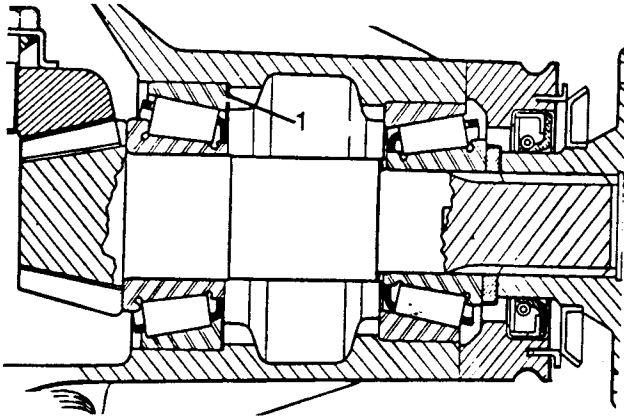

Fig J2.55
- (4) Refer to Fig J2.55. Adjustment can be made by changing the shims (1) located on the pinion shaft between the bearings. Shims are available in a range of thicknesses. Thicker shimming will reduce bearing pre-load, thinner shimming will increase pre-load.